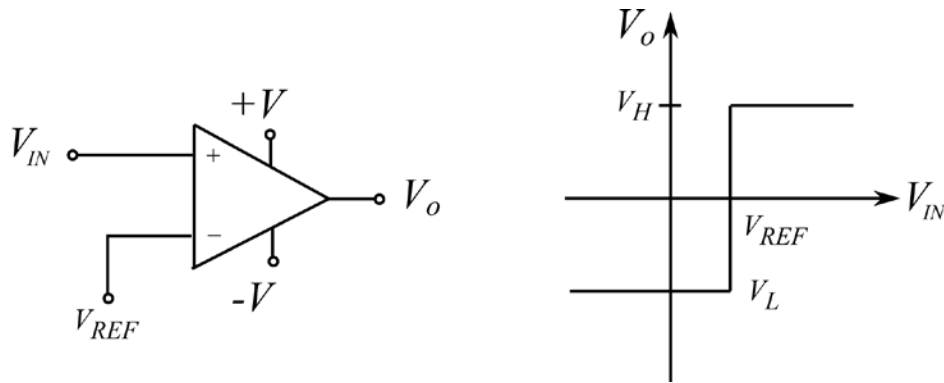

Figure 2: The non-inverting comparator and its transfer characteristic.
A circuit that compares two voltages and indicates which one is larger is extremely useful. This circuit is called a **comparator**, and Figure 2 shows how one can be built using an op-amp. Essentially it is just an op-amp running “open loop” – that is, without any negative feedback. Note that this class of circuit is nonlinear, and different methods are needed for analysis.
1. Breadboard the non-inverting comparator shown in Figure 2. Set  $V_{REF} = 0$  (ground) and the power supplies equal to  $\pm 12$  volts.